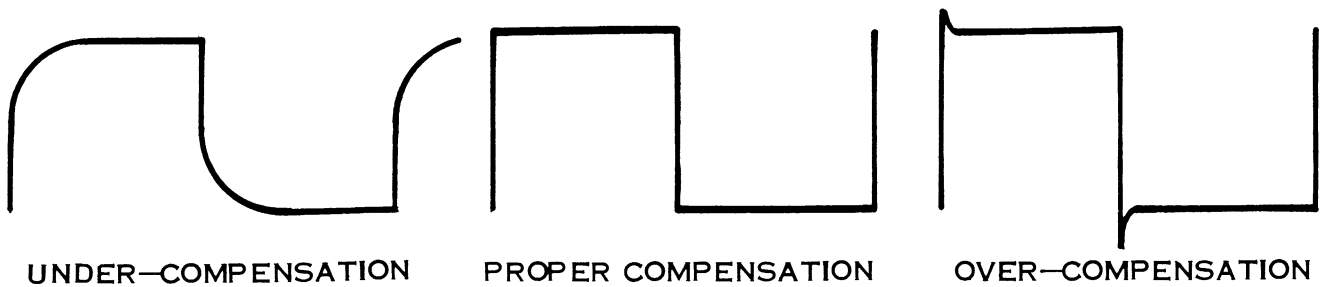

Figure 4-2. Compensation Waveforms
- Adjust sweep rate for at least one complete rectangular waveform. Waveform will appear to have vertical sides and horizontal (flat) top and bottom (B, Figure 4-2).
- Set probe switch to LO CAP. and put tip of probe into .5V CAL. output jack. If wave shape is square, as in B, Figure 4-2, probe is ideally compensated. If not, as in A or C, Figure 4-2, perform compensation procedure of paragraph 4.10.
- Insert probe tip into .5V CAL. output jack and adjust capacitor set screw with a tuning wand or a non-ferrous screwdriver until a good sharp leading edge is obtained (B, Figure 4-2).